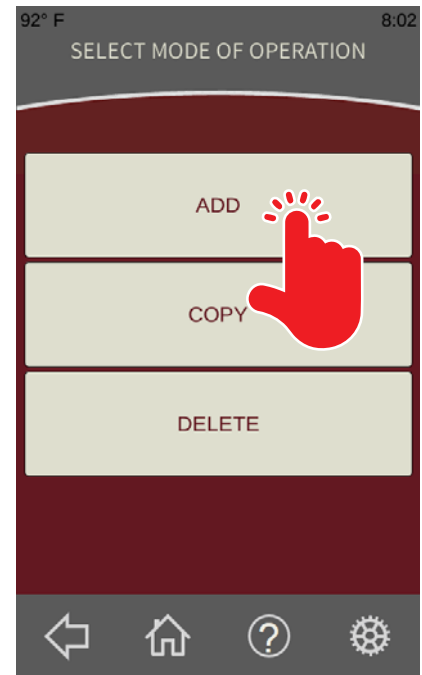

Fig. 26
2. From the **Recipe Steps Screen** (Fig. 26), touch the Add button. The **Standard Recipe Run Screen** should be displayed with green plus boxes in the step number section.